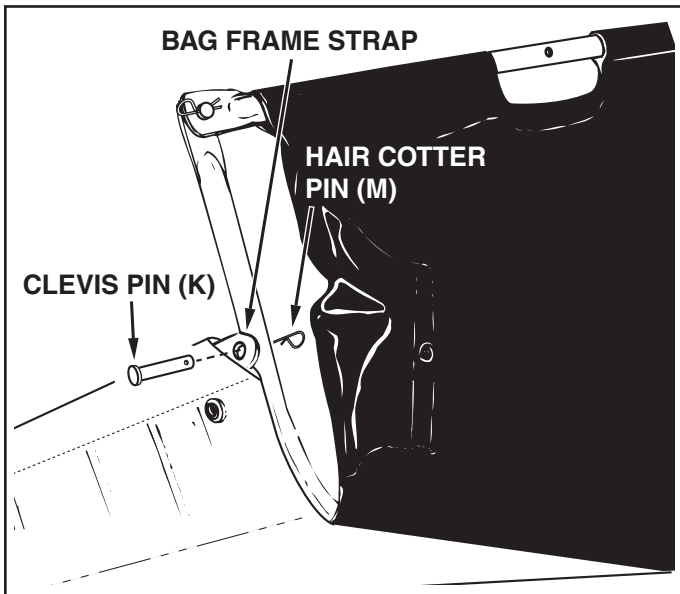

FIGURE 14
STEP 16: (SEE FIGURE 14)
- Assemble the bag frame strap to the holes in the lower hopper tubes using two clevis pins (K) and hair cotter pins (M).